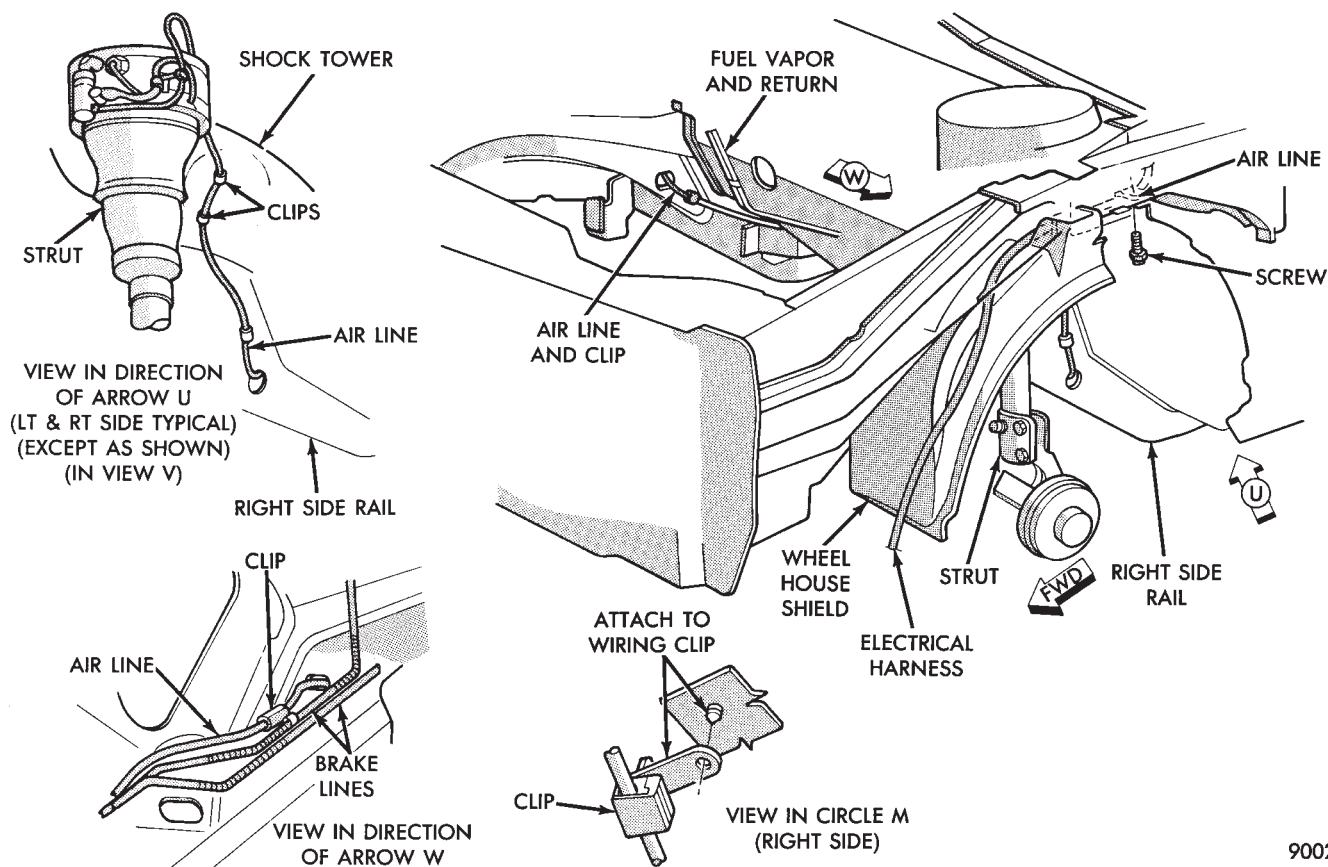

Fig. 4 Air Lines Front
Nylon air lines (4) are routed from the compressor (air dryer) to each strut/spring assembly. **Right** side strut and air spring air lines are routed with the fuel lines. **Left** side strut and air spring air lines are routed across the vehicle (forward of the fuel tank). And to the front of the vehicle with the brake lines (Figs. 4 and 5).